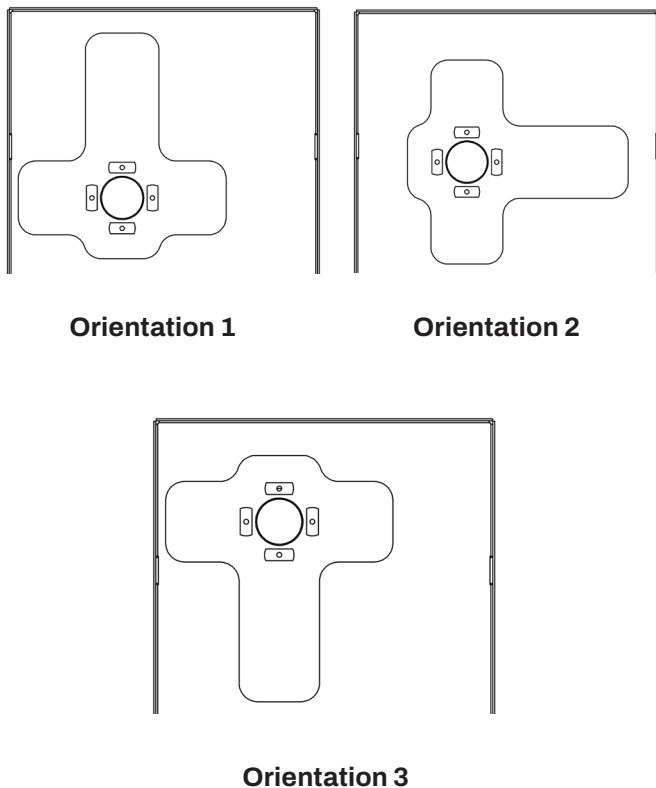
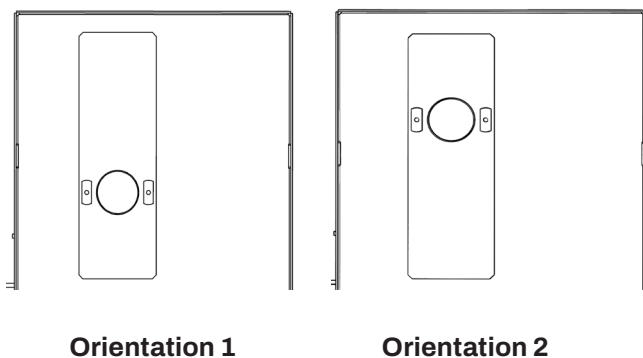

Figure 21 - Motor Slide Plate Orientation Style A
Figure 22 - Motor Slide Plate Orientation Style B
4. The motor slide plate can be adjusted so the slot is completely covered. Figure 21 shows orientation style "A" with three possible orientations for the slide plate. Figure 22 shows orientation style "B" with two possible orientations for the slide plate. The slide plate will cover the entire range of possible motor to gearbox input shaft center distances. However, the orientation of the slide plate is important and changes through the range of center distances to provide complete coverage.
Table 3 shows center distance range per slide plate orientation for each gearbox size. The view reference point of the slide plate in Figures 21 and 22 follow the same reference views from Figures 3-20, only zoomed in to view the slide plate area.